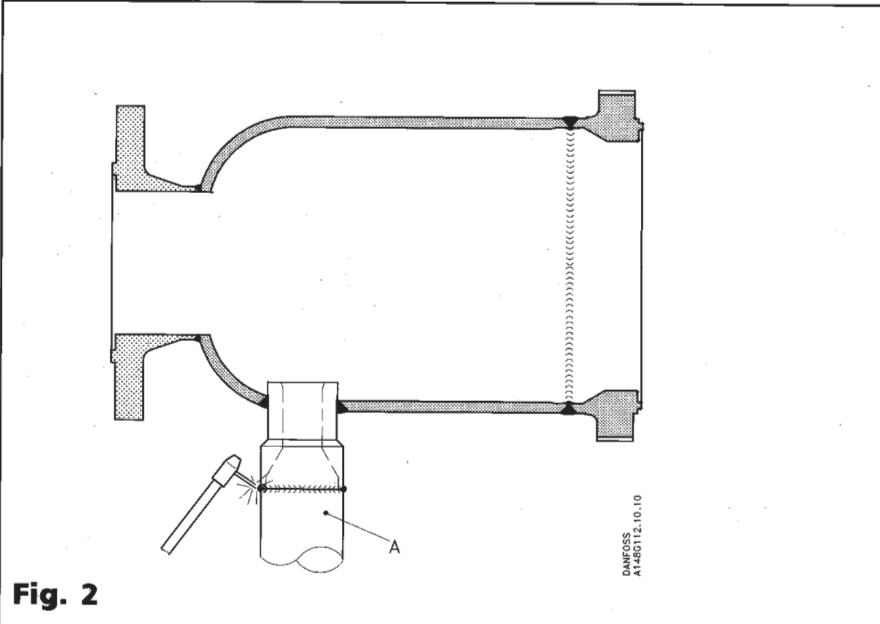

Fig. 2
- Weld the outlet branch pos. A into the plant as shown in fig. 2.